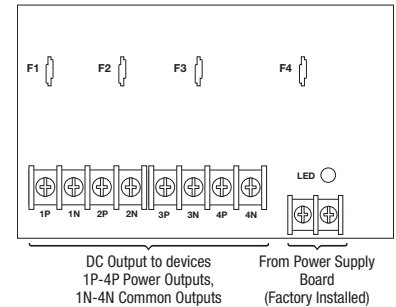

Fig. 3a - PD8UL Power Distribution Board
- b. For other Power Distribution Models: connect devices to be powered to the terminal pairs 1 to 4 marked [1P & 1N] through [4P & 4N] (*Fig. 2a & 2b, pg. 5*) or 1 to 8 marked [1P & 1N] through [8P & 8N] (*Fig. 3a & 3b, pg. 5*), carefully observing correct polarity.
6. For Access Control applications batteries are optional. When batteries are not used, a loss of AC will result in the loss of output voltage. When the use of stand-by batteries is desired, they must be lead acid or gel type. Connect one (1) 12VDC battery to the terminals marked [+ BAT -] for 12VDC operation.